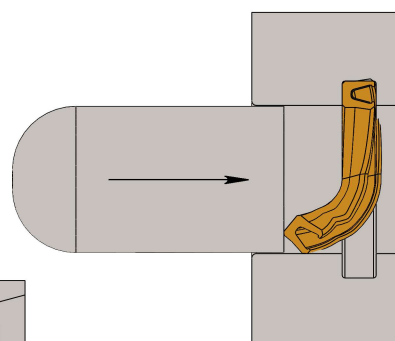

Figure 11: Deform Seal and Apply Force with Pusher Tool Blunt End
4. Shaft designs with closed glands - Avoid this configuration for small diameter seals where the seal ID is less than 25 times the cross-section. Extreme care must be taken while using a pusher tool to force and resize the seal into the gland (see Figures 11 & 12 for a step by step process).